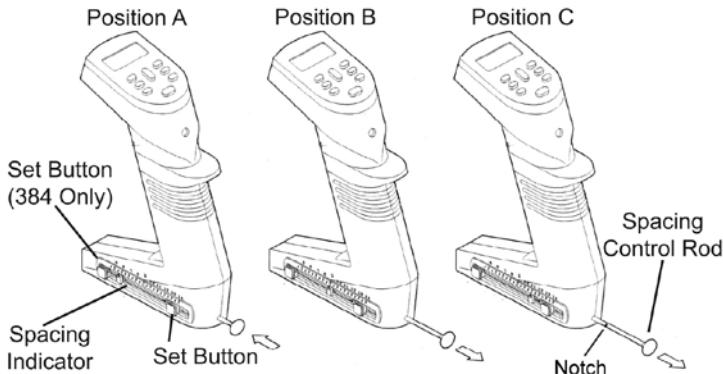

Figure C.1: Equalizer Spacing
The Matrix Equalizer pipette allows the tip-to-tip spacing to change. This allows pipetting into or between vessels of varying center-to-center configurations. The set button(s), spacing indicator and spacing control rod all work together to change the distance between the tips (see figure C.1).
**Note:** On 8-Channel Equalizer 384 pipettes, there is a notch (see figure C.1 Position C) located on the control rod that indicates the 9 mm position for easier aligning of the control rod for 96-well plates. By applying pressure to the front side of the control rod, the notch can be by-passed for smoother slide operation. Conversely, when pushing or pulling the control rod past the 9 mm position, if pressure is applied to the back side of the control rod, the notch is more noticeable.